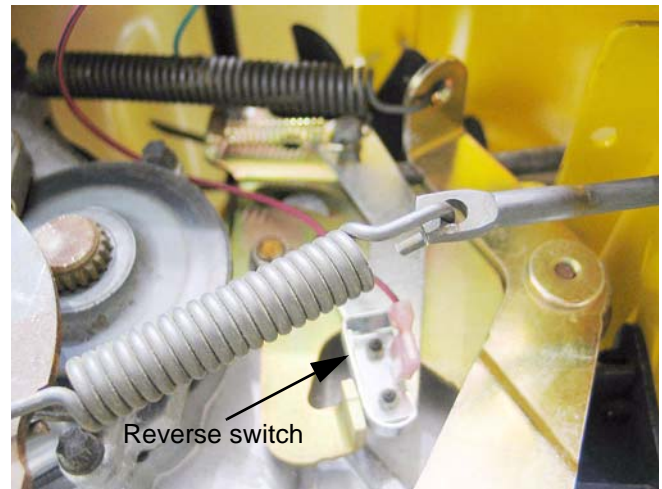

Figure 31.32
31.32. As the hydro control rod pulls forward on the input arm, it first moves a ground contact against the reverse safety switch. See Figure 31.32.